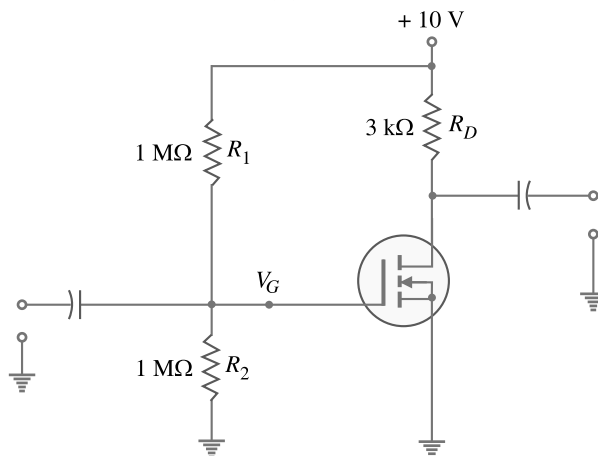

Fig. 17.72
**Example 17.41.** Determine the value of  $I_D$  for the circuit shown in Fig. 17.72. The data sheet for this particular MOSFET gives  $I_{D(on)} = 10 \text{ mA}$  at  $V_{GS} = 10 \text{ V}$  and  $V_{GS(th)} = 1.5 \text{ V}$ .